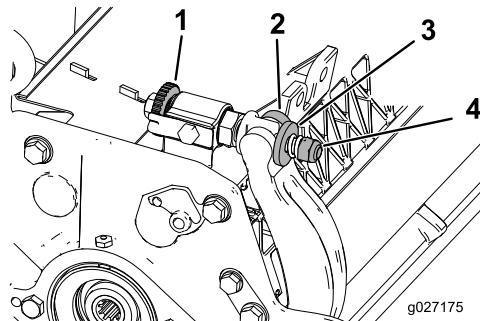

Figure 24
1. Turn bedbar adjuster screws counterclockwise to back the bedknife away from reel (Figure 24).
2. Back out the spring tension nut, until the washer is no longer tensioned against the bedbar (Figure 24).